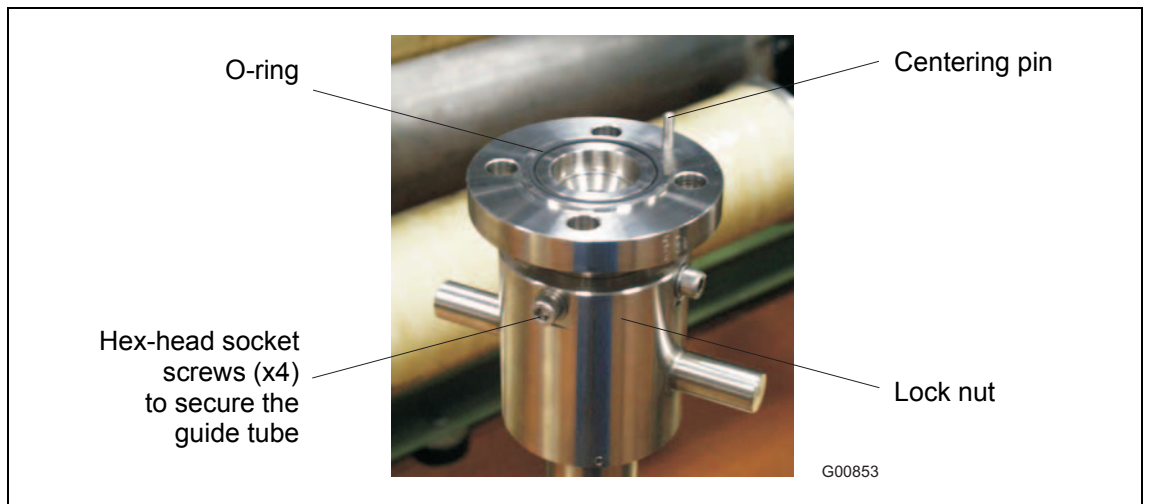

Fig. 10
- Insert the O-ring (55 x 3 mm [2.16 x 0.12 inches]) into the groove provided for this purpose (Fig. 10). The O-ring gasket and screws are included in the scope of delivery.
- To disassemble the guide tube, release the 4 hex-head screws on the lock nut (Fig. 10) and remove the guide tube. Clean parts, if necessary.